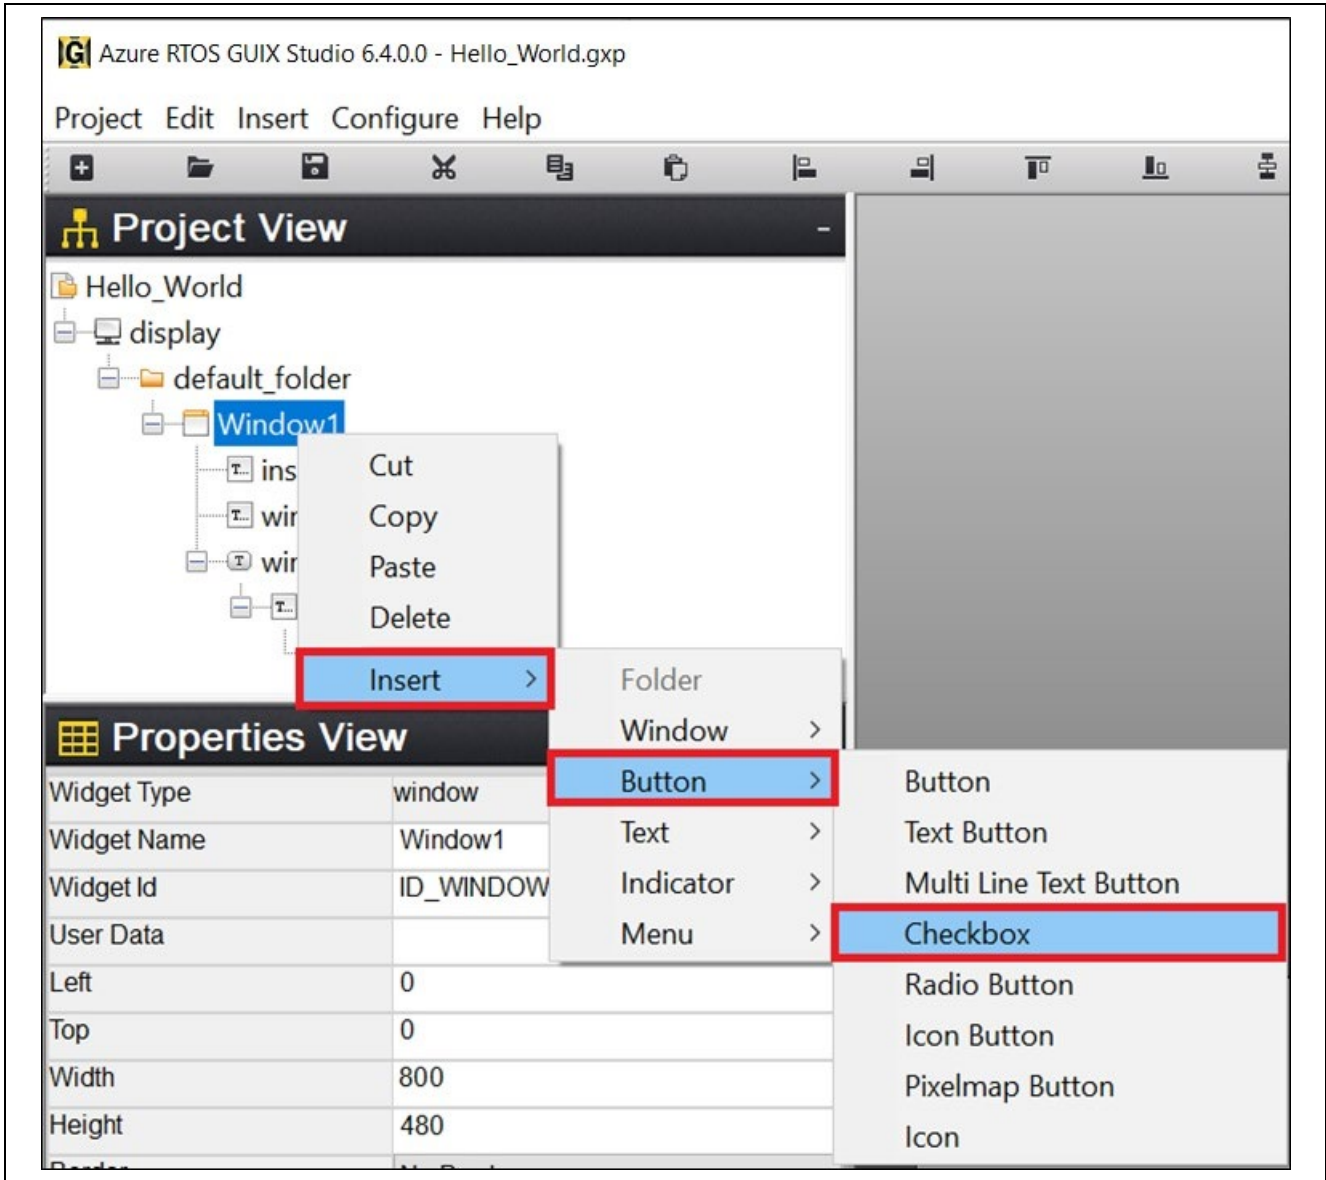

Figure 58. Insert Button Checkbox
21. Insert **button Checkbox**. Right click on **Window1** and follow Figure 58.